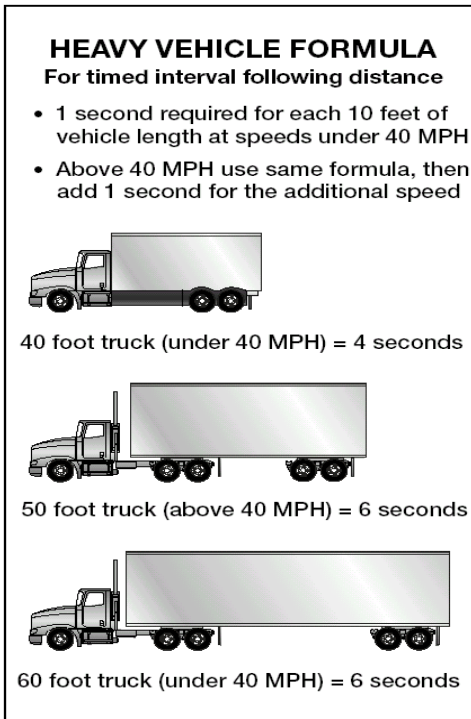

Figure 2.12
For example, if you are driving a 40-foot vehicle, you should leave four (4) seconds between you and the vehicle ahead. In a 60-foot rig, you'll need six (6) seconds. Over 40 mph, you'd need five (5) seconds for a 40-foot vehicle and seven (7) seconds for a 60-foot vehicle. See Figure 2.12.